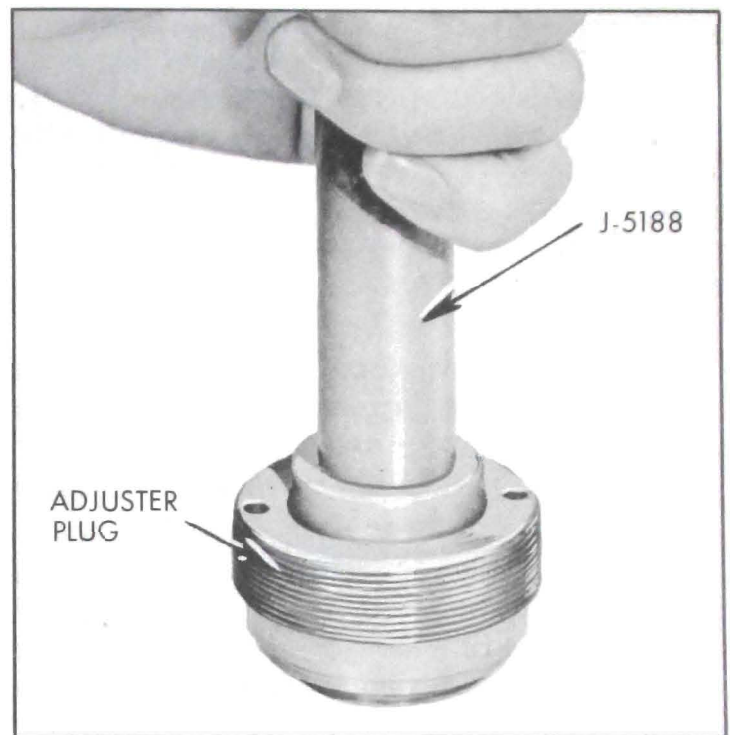

Figure 8-33—Installing Stub Shaft Seal
2. Lubricate new stub shaft seal with automatic transmission oil and install seal and back-up washer with spring in seal toward plug using Tool J-5188. Install seal only far enough in adjuster plug to provide clearance for retaining ring. See Figure 8-33. Install retaining ring with No. 3 Truarc Pliers, J-4245, making certain ring is properly seated.